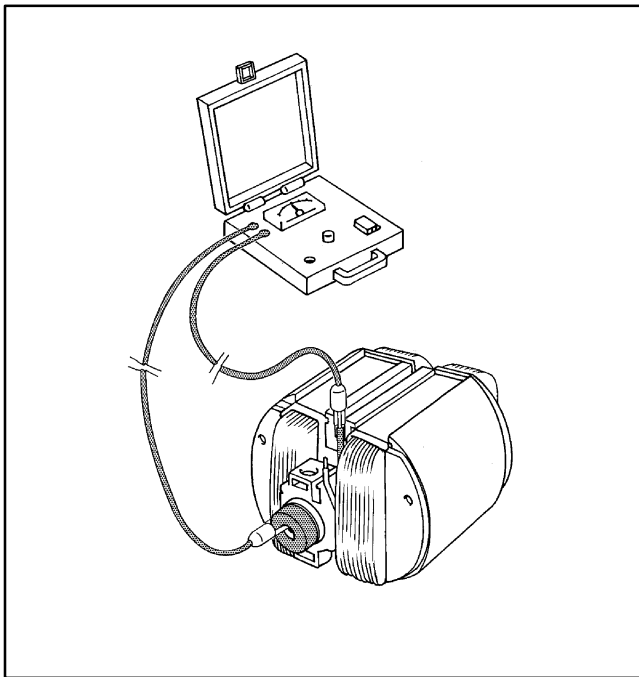

Figure 9-2 Rotor Insulation Test
2. Using a Megger set at 500 volts DC, check the winding insulation resistance value to ground. Check every part isolated from the others. See Figure 9-2 Normally, windings with a resistance value to ground greater than 1 MOhm are considered good. If resistance is lower than 1 MOhm, replace the rotor.